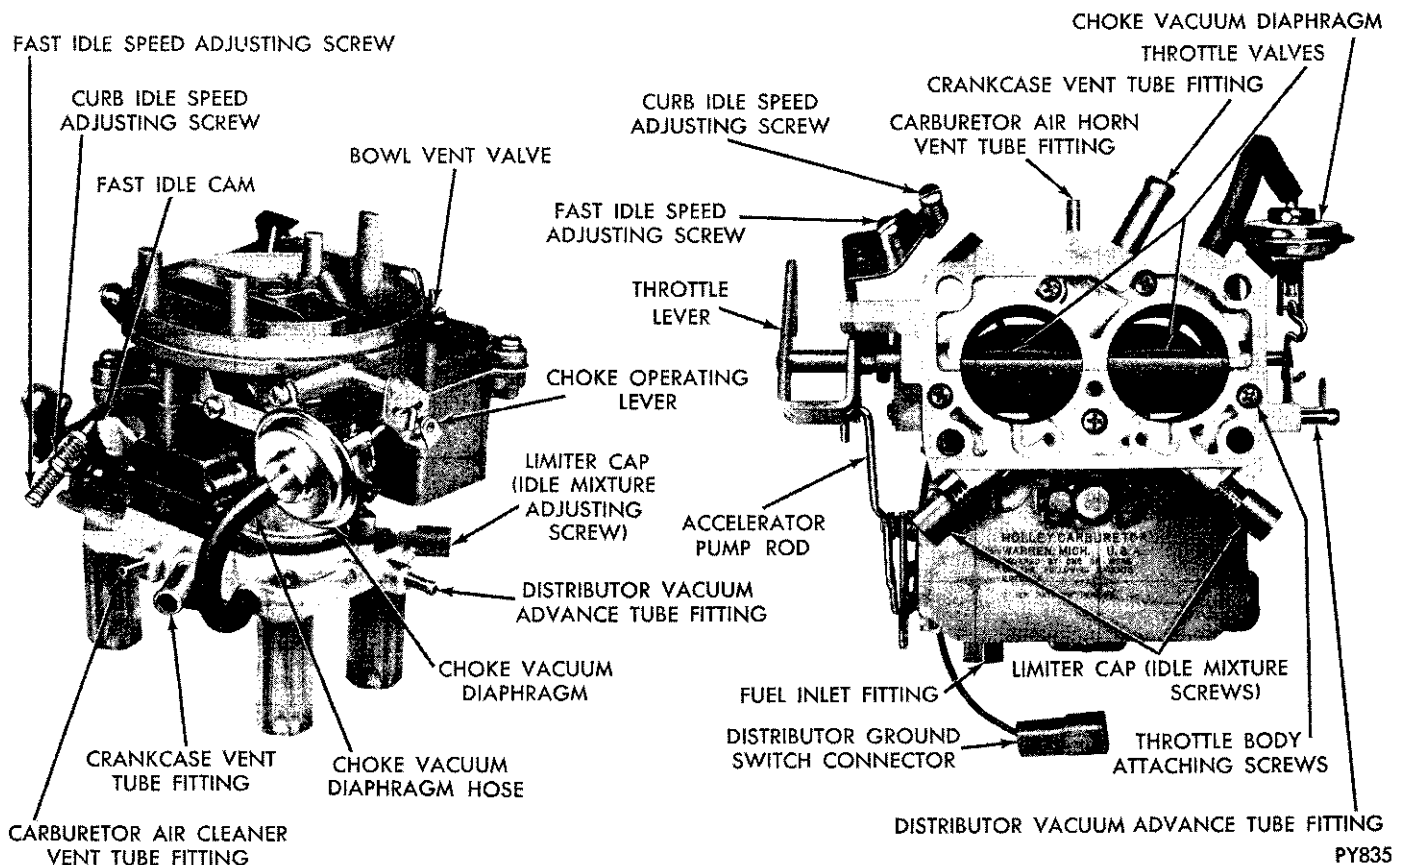

Fig. 1—Carburetor Assembly
(1) Insert three Tool T-109-287S and one Tool T109-288S elevating legs through carburetor throttle body mounting stud holes. (These tools are used to protect throttle valves from damage and to provide a suitable base for working.) (Fig. 1).